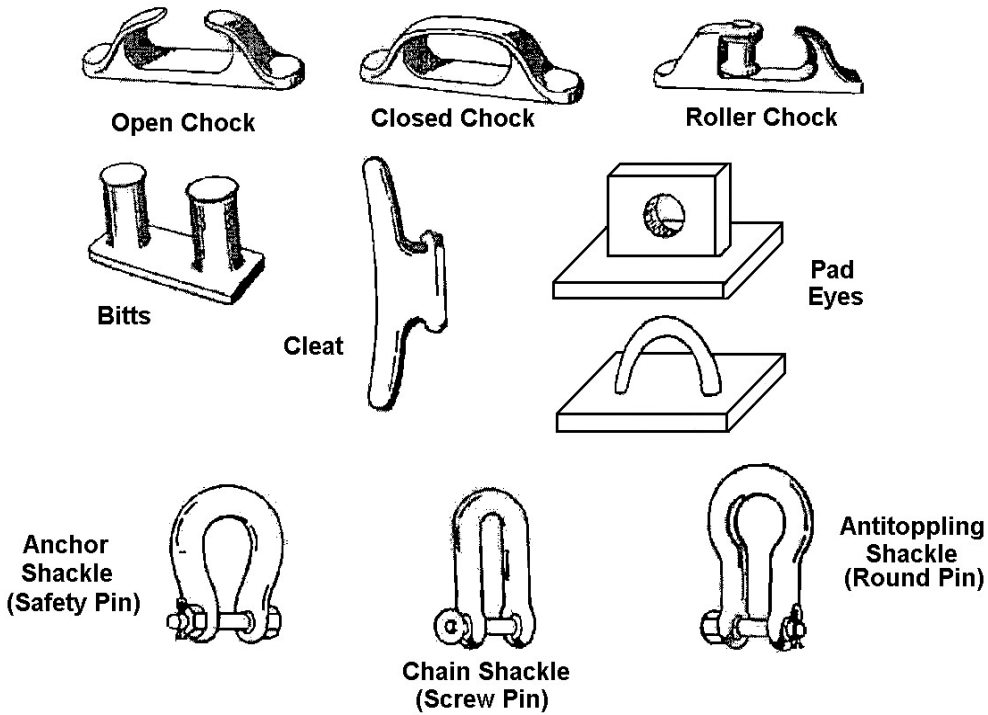

Figure 3-29
8. Inspect deck fittings and shackles (see Figure 3-29).